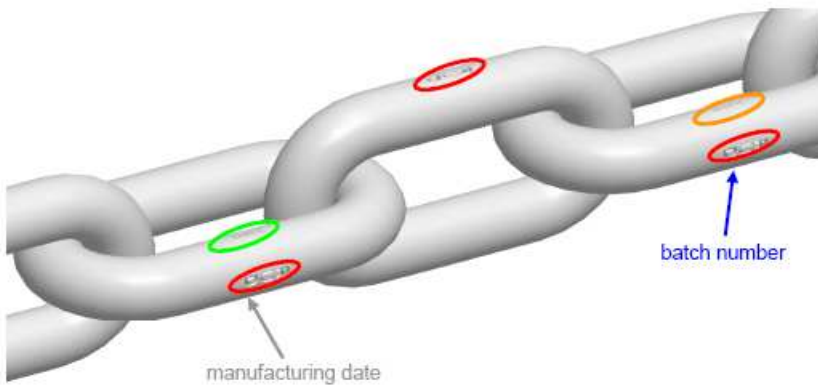

Fig 2
**3.2 Chain Markings (Fig. 2)**